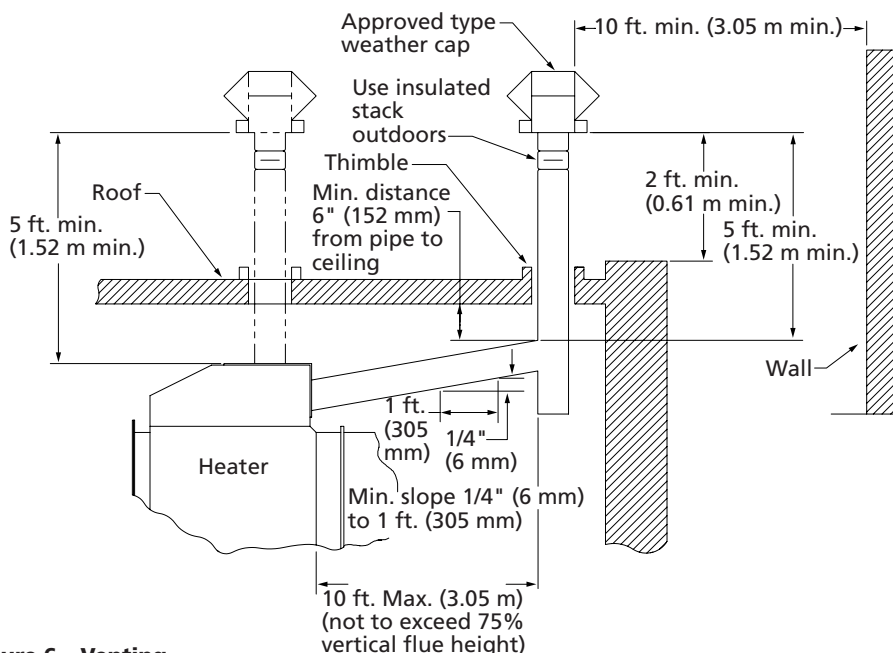

Figure 6 – Venting
4. Slope horizontal runs upward from the gas unit heater at least 1/4 inch per foot (21 mm/m). Horizontal runs should not exceed 75% of the vertical height of the vent pipe, or chimney, above the flue pipe connection, up to a maximum length of 10 feet (3 m). Horizontal portions of the venting system shall be supported at maximum intervals of four feet (1.2 m) to prevent sagging (See Figure 6).